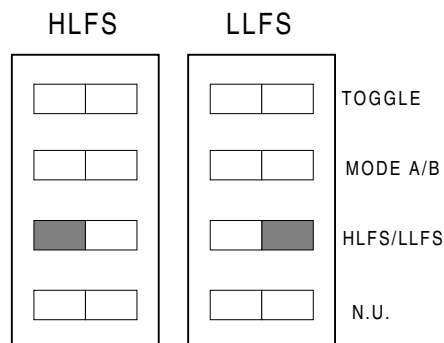

Figure 3-2
- The failsafe is field selectable by a dip switch on top of the electronic unit. See Figure 3-2.